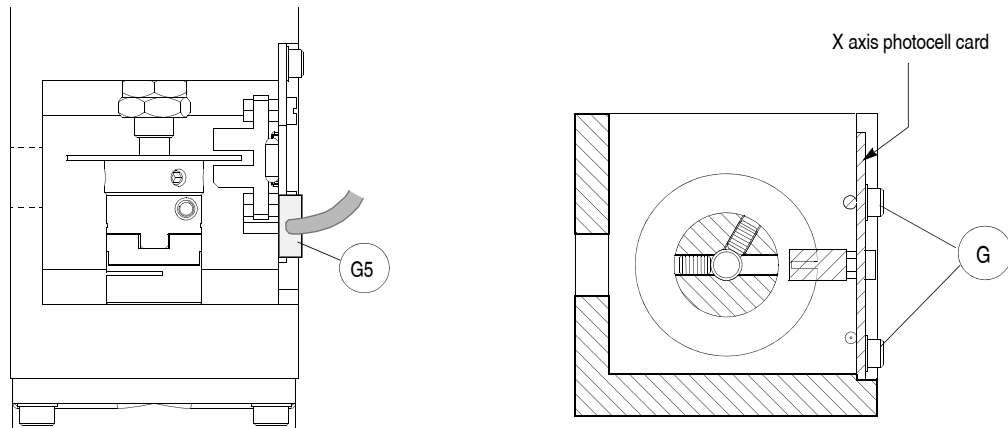

Fig. 62
- 3) unscrew the 2 (G) screws that secure the photocell card and remove.
- 4) disconnect the (G5) photocell cable (fig. 62).
- 6) replace the photocell in position securing it with the (G) screws.